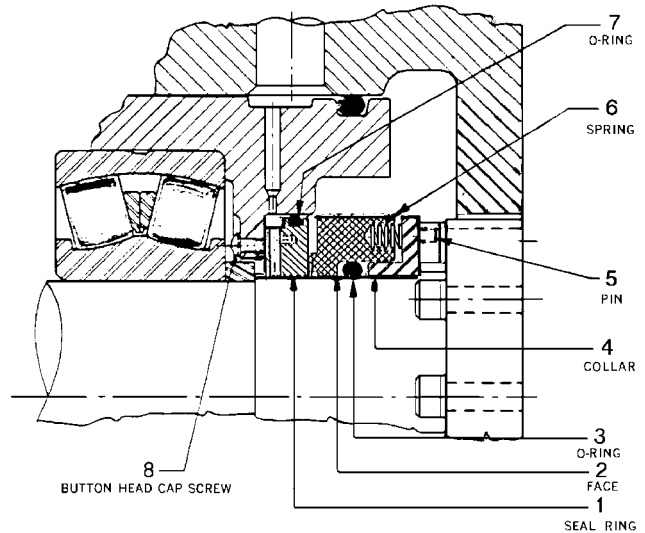

FIGURE 16 - MECHANICAL SEAL INSTALLATION
**Mechanical Seal** (FIGURE 16, page 20) - Whenever a mechanical seal must be replaced, the following procedure should be followed.
2. Clean the shaft thoroughly, especially where the face (item 2) is located.
4. It is necessary to use a tapered assembly tool when installing seal assembly, consisting of items 2 through 6. Be sure that the spring holder (item 4) is pushed against the cap screws.
5. When installing the seal (item 1) and "O"-ring (item 7) in the bearing cartridge, it is also necessary to use a tapered assembly tool to